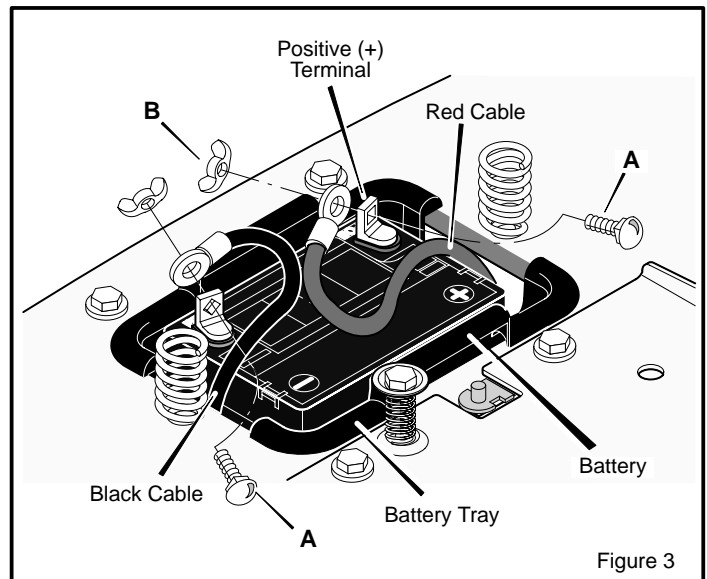

Figure 3
1. Check the top of the battery for the location of the battery date (Figure 3).
2. Fasten the **red cable** to the **positive (+) terminal** with the fasteners as shown (Figure 3).